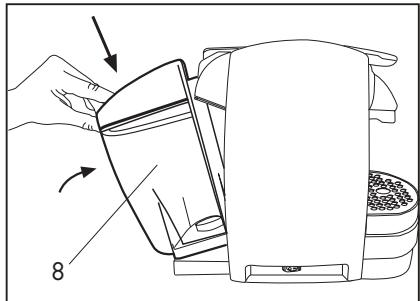

Fig. 3
- Reinstall the tank by slightly tilting and resting it on the water valve. (**Fig.3**)